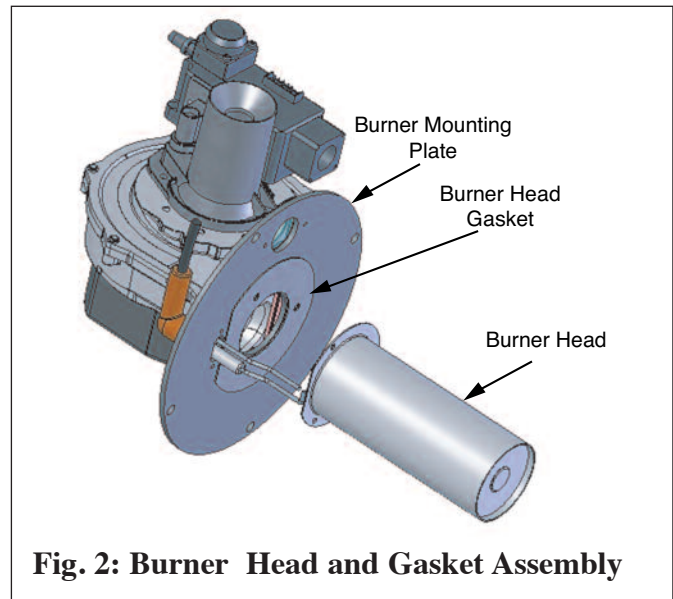

Fig. 2: Burner Head and Gasket Assembly
8. With the new gasket in place attach the new burner head to the burner mounting plate, using the screws supplied in the kit, as shown in Fig. 2.
9. Re-insert the burner assembly onto the heat exchanger body. Carefully align the burner assembly and igniter with the combustion chamber insulation to avoid insulation damage, as shown in Fig. 2.